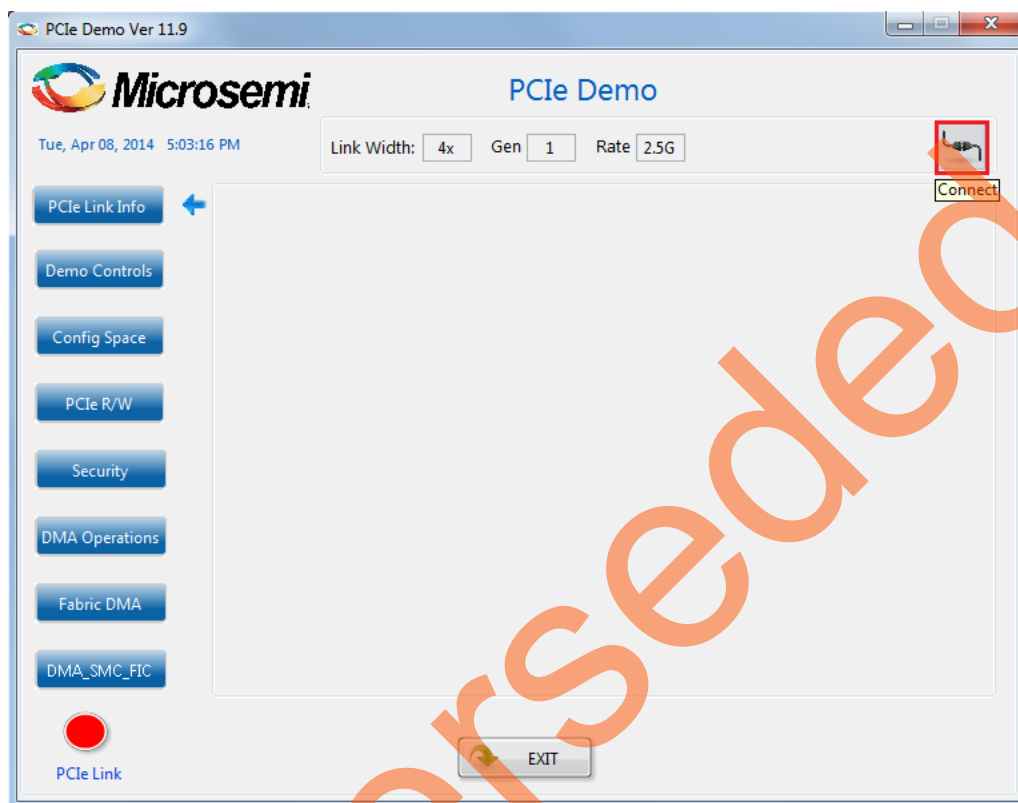

Figure 13 • PCIe Demo GUI
2. Invoke the GUI from **ALL Programs > PCIe_Demo > PCIe Demo GUI**. The GUI is displayed as shown in **Figure 13**.